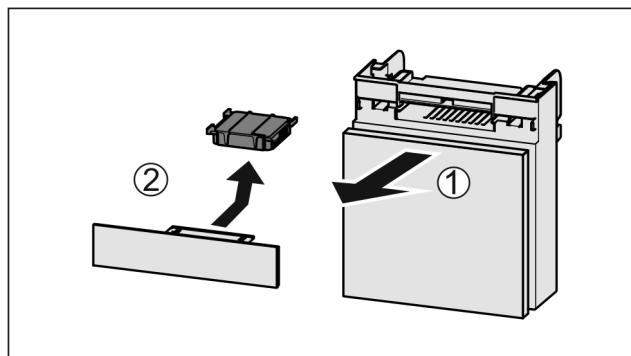

Fig. 103
- Pull out the compartment Fig. 103 (1).
- Remove the carbon filter Fig. 103 (2).